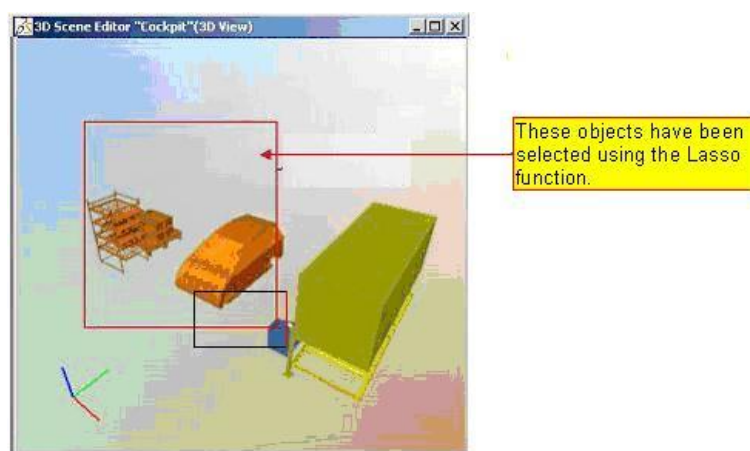

Figure 128: Selecting Object with the Lasso
- 2) Press the left mouse button afterwards and draw a frame around the objects while holding down the mouse button. All objects within this frame are selected. Please refer to the Figure 128.